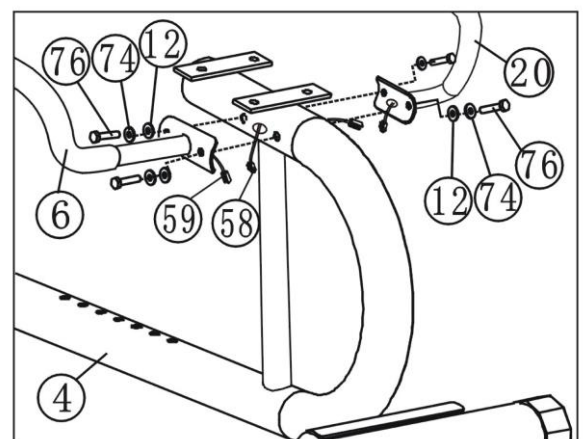

Figure 7
to the Seat cushion adjuster (4) with fourM8\*20 Bolts (76), spring washers (74) and Arc washers (12). (See figure 7)